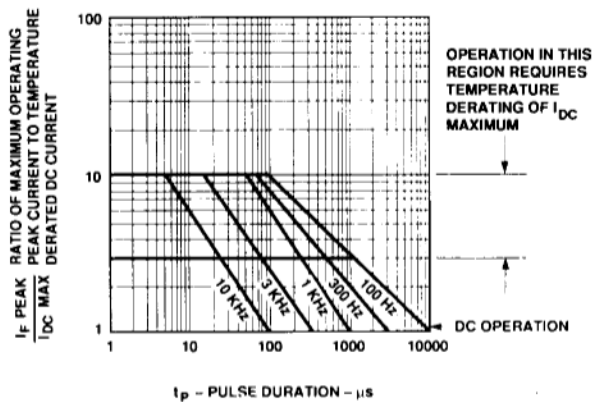

Figure 7. Maximum Tolerable Peak Current vs. Pulse Duration – HER, Orange.
- See Figure 7 to establish pulsed conditions.